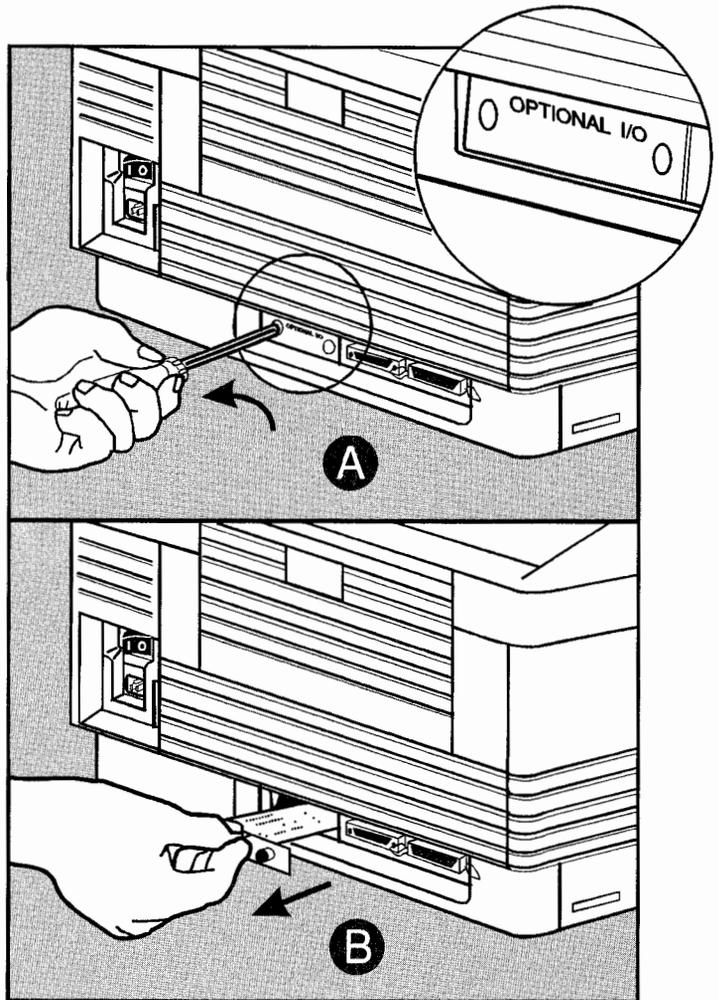

Figure 3-4. Accessing the Optional I/O Slot
2. Locate the Optional I/O slot at the rear of the printer, near the center. See Figure 3-4.
- a. Completely loosen the two screws on the Optional I/O slot cover or the installed adapter card using a small Phillips-head screwdriver. See **A** in Figure 3-4.
- b. If an existing card is installed, remove it by pulling firmly on the card's handle. See ③ in Figure 3-4. Store the card in the antistatic bag in which your ThinLAN adapter card came.